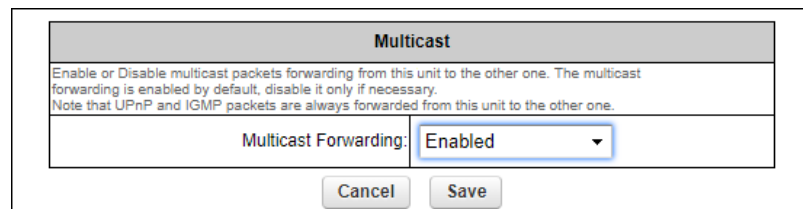

Figure 42. Multicast dialog (Bridge mode)
2. Click the **-multicast** link under **ADVANCED SETTINGS** in the left-hand settings menu (Figure 42 \(page 115\)).